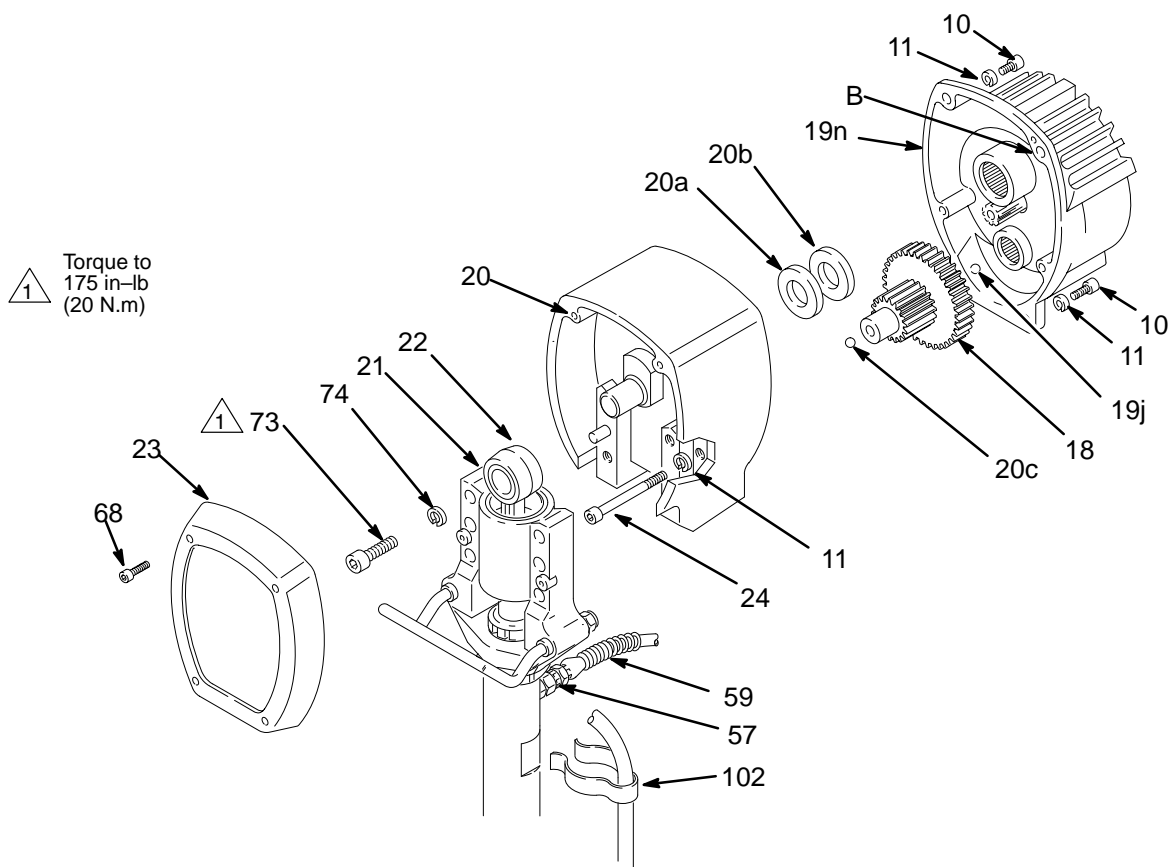

Fig. 19
**NOTE:** Refer to Fig. 19 for this procedure.
1. Remove the front cover (23).
2. Disconnect the hose (59) from the pump nipple (57). **For the upright carts only**, detach the drain hose (102) from the pump.
3. Remove the four screws (73) and lockwashers (74) from the bearing housing (21).
5. Remove the two screws (24) and lockwashers (11). Remove the four screws (10) and lockwashers (11).
6. Lightly tap around the drive housing (20) with a plastic mallet to loosen it from the pinion housing (19n).
7. Liberally apply bearing grease (20d, supplied) to the gear cluster (18). Be sure the thrust balls (20c and 19j) are in place.
8. Place the bronze colored washer (20a) and then the silver-colored washer (20b) on the shaft protruding from the big bearing of the drive housing (20). Align the gears and push the new drive housing straight onto the pinion housing and locating pins (B).